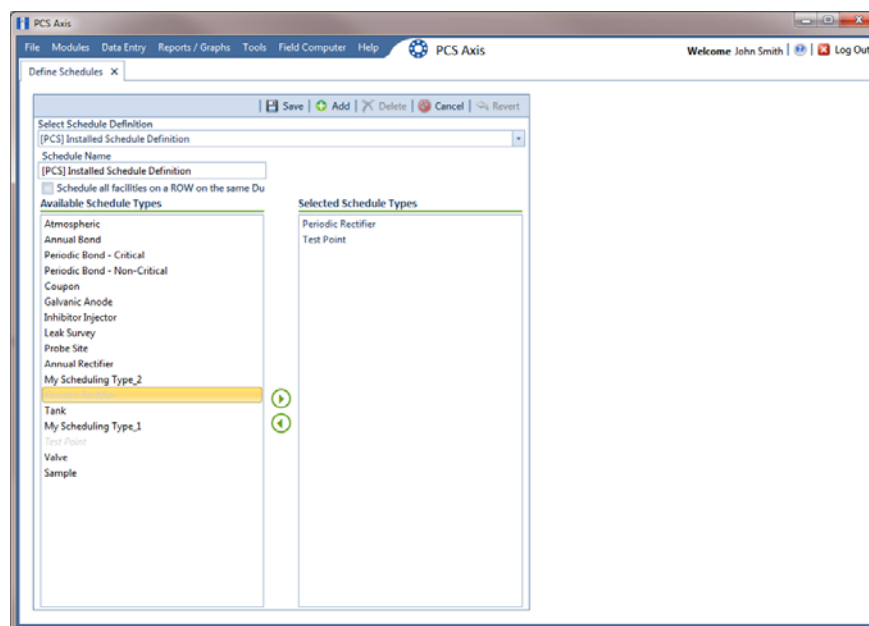

**Figure 9-9. Define Schedules**
- 1 Click **Data Entry** > **Define Schedules** to open the *Define Schedules* window (Figure 9-9).